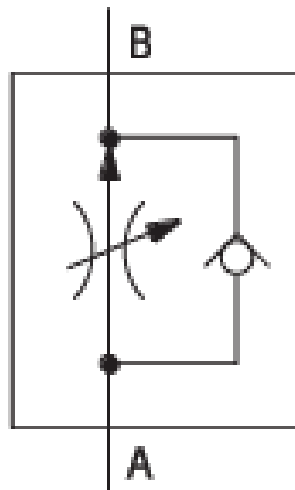

Figure 5.6: A 2-way flow control valve and its symbol.
- **Symbol:** An adjustable restriction, as shown in Figure 5.6.